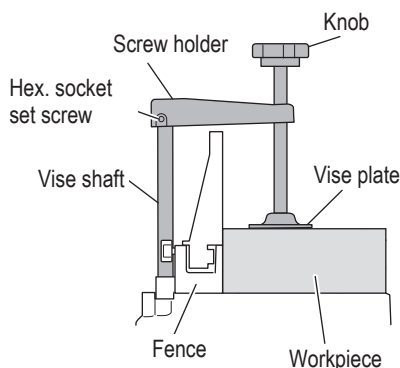

Fig. 23
- (1) The vise assembly can be mounted on the base.
- (2) Turn the upper knob and securely fix the workpiece in position (Fig. 23).